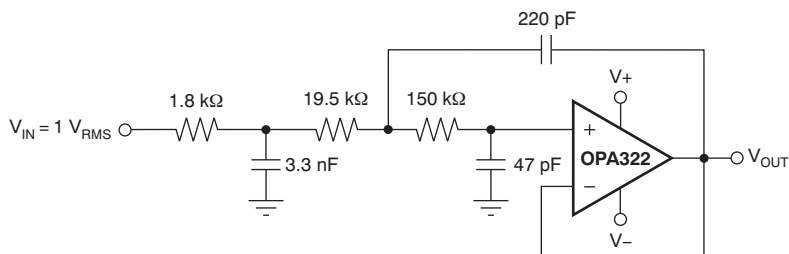

Figure 34. OPA322 Configured as a Three-Pole, 20-kHz, Sallen-Key Filter
3. using a noninverting filter topology, such as the Sallen-Key (shown in Figure 34).